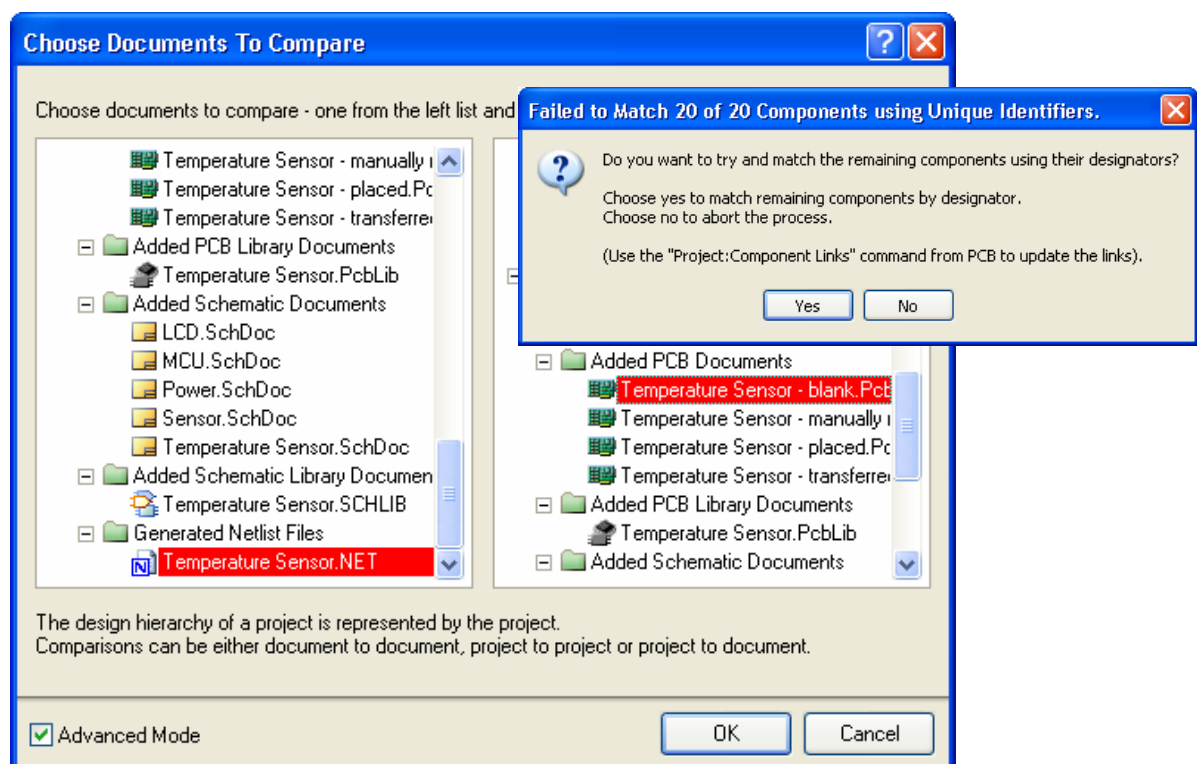

Figure 2. Advanced mode chosen in the Choose Documents to Compare dialog
- Enable the **Advanced** check box, as shown in Figure 2.